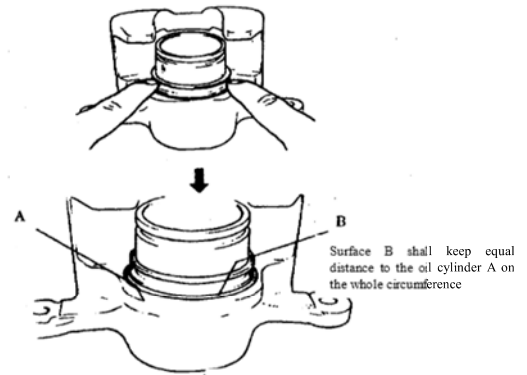

Fig.3.7-3
2) Insert the piston with dust proof cover into the oil cylinder groove by using your fingers. (Please refer to Fig.3.7-3).